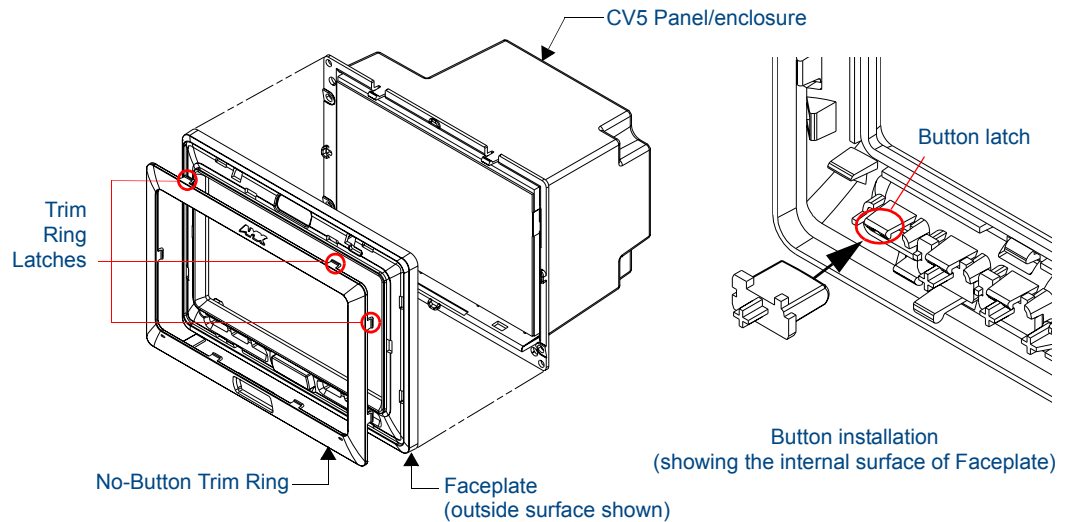

FIG. 11 Removing the No-Button Trim Ring
4. Gently tug along the edges of the No-Button Trim Ring and work your way around the edges to remove it from the Faceplate (FIG. 11).
5. From along the internal surface of the Faceplate, install the six buttons by firmly inserting them into the button openings until the Button latch secures the button in place (FIG. 11).